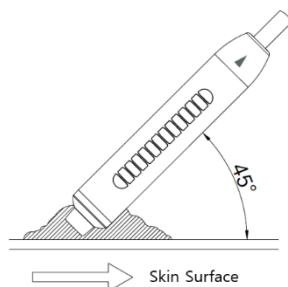

Figure 1. BT-200V 4MHz, 5MHz, 8MHz Probe
- If use 4,5,8MHz probe of BT-200V, hold the probe softly against the measurement area at an angle of approximately 45 degrees to the skin surface (see figure 1). Place the probe on the skin and move slowly to locate the point where maximum Doppler sounds are heard.